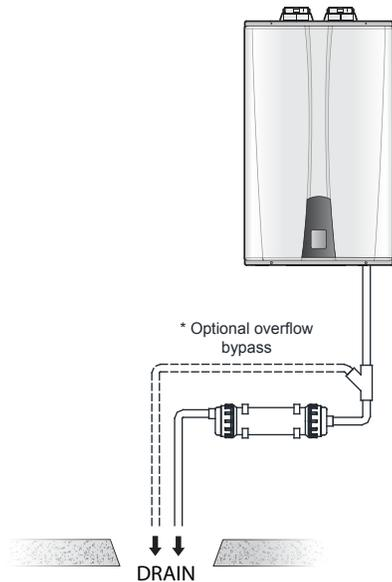
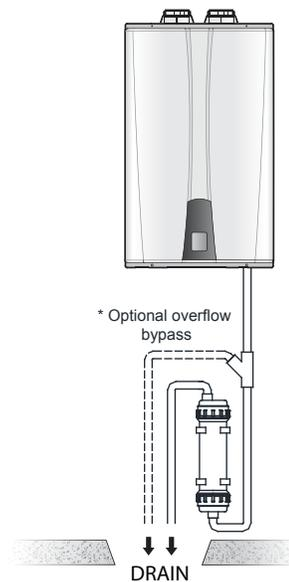

Figure 1: HORIZONTAL Installation
Figure 2: VERTICAL Installation
- When mounting the neutralizer in the **horizontal** position, rotate the tube so the outlet is at its highest point (Figure 1). When mounting in the **vertical** position, ensure the outlet is at a higher elevation than the inlet (Figure 2). The preferred mounting method is in the **horizontal** position. Ensure that the condensate will flow freely from the appliance drain into the neutralizer then to the drain.